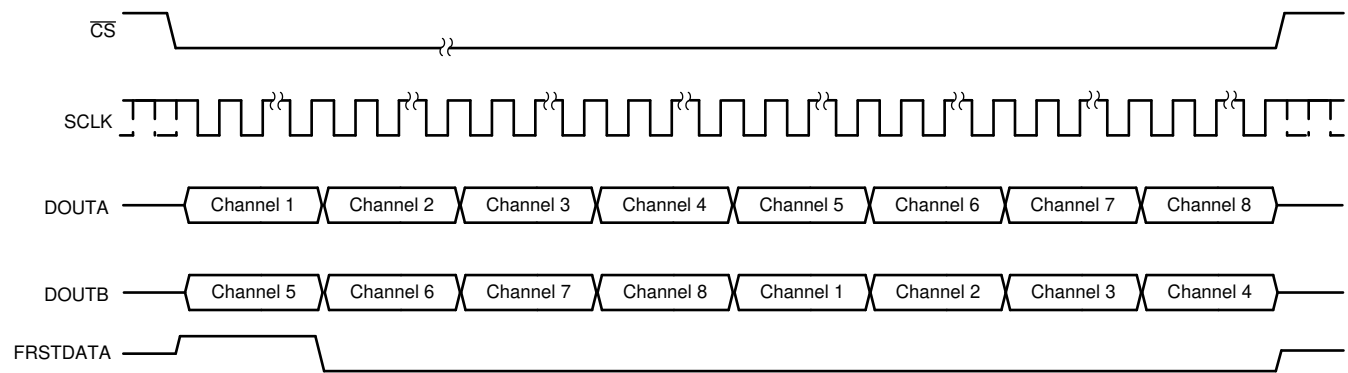

Figure 7-18. Data Read Back in the Serial Interface Using Either DOUTA or DOUTB Timing Diagram
- The conversion data can be read out of the device using only one of the two serial output lines, DOUTA or DOUTB. In this case, using DOUTA for output data read back is recommended because channel 1 data appear first on DOUTA followed by the data for other channels in ascending order. To read the data for all channels, provide a total of $16 \times 8 = 128$ SCLK cycles. This entire data frame can be created within a single \overline{CS} pulse or each group of 16 SCLK cycles can be individually framed by the \overline{CS} signal. The primary disadvantage of using just one data line for reading conversion data is that the throughput is reduced if a data read operation is performed after conversion. Figure 7-18 illustrates this operation.
- Alternatively, only DOUTB can be used for reading the conversion data from all channels. In this case, everything else remains the same and the output bit stream contains data for all channels in the following order: channels 5, 6, 7, 8, 1, 2, 3, and 4. Figure 7-18 illustrates this operation.